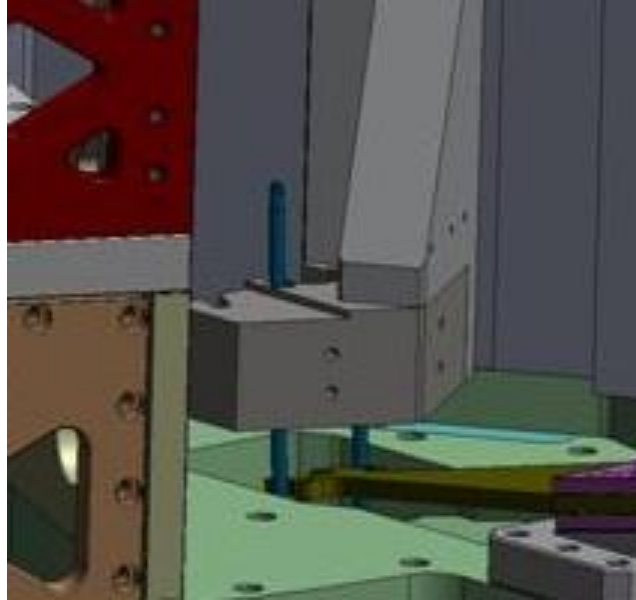
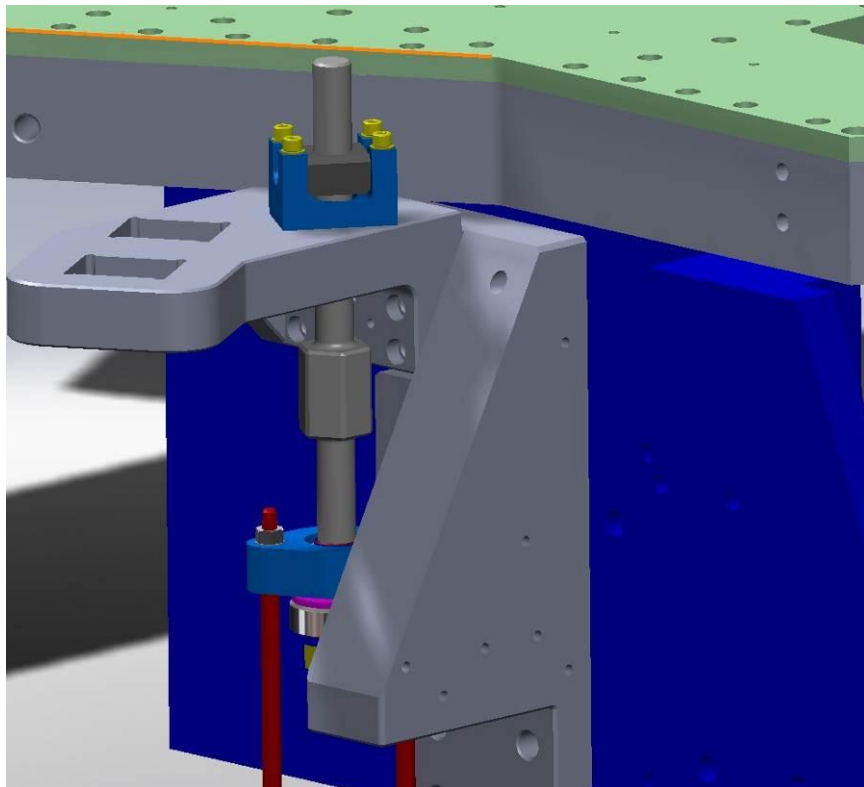

Figure 111: D0902188 Rods in place in D0902276 Flexure Rod Bracket
Figure 112: D0902454 Stage 1-2 Blade Puller Assembly mounted on D0902488 Pre-Load Bracket
- Slide the Bottom Part of D0902454 Stage 1-2 Blade Puller Assembly (see Figure 111 & Figure 112) through D0902187 Pre-Load Connection Block from below.
- Insert and snug (2) 5/16-18 Hex Nuts & 5/16" Washers onto D0902188 Pre-Load Tool Rod.